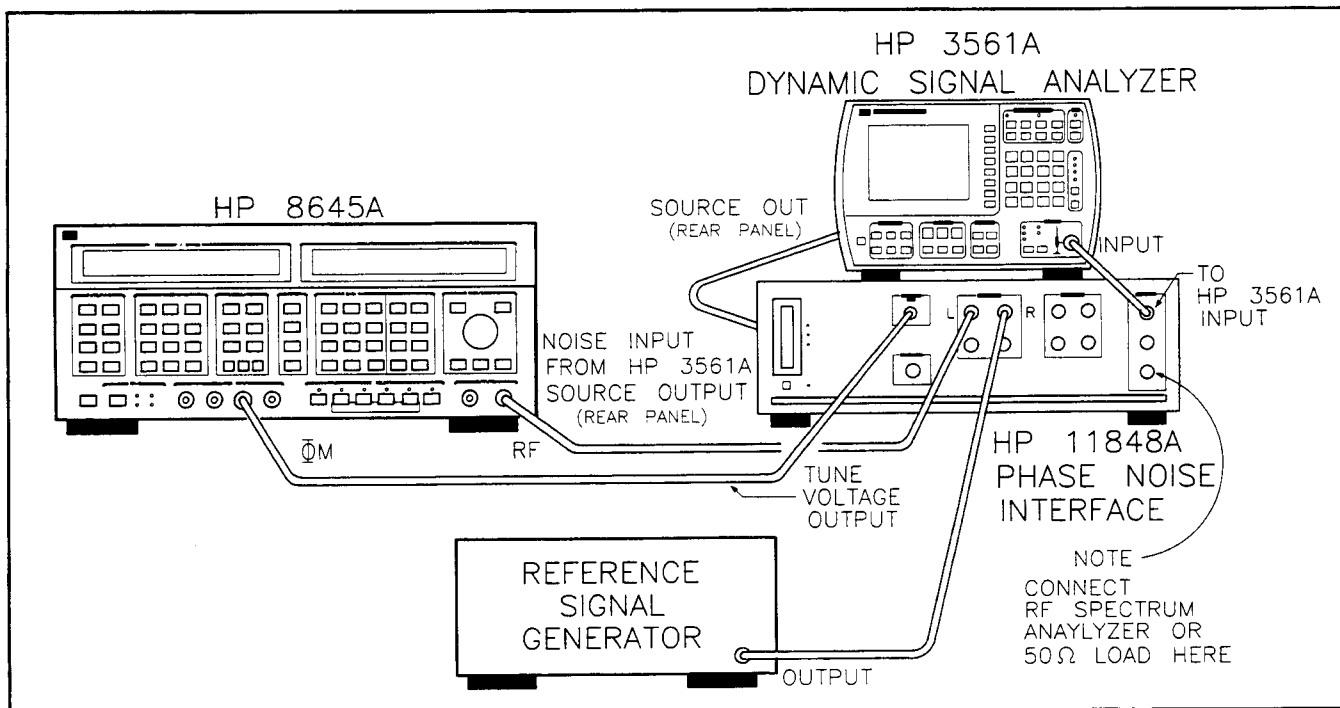

Figure 3-4. SSB Phase Noise Test Setup
1. Connect the equipment as shown in figure 3-4. (Note the connection to the ΦM input of the HP 8645A.)